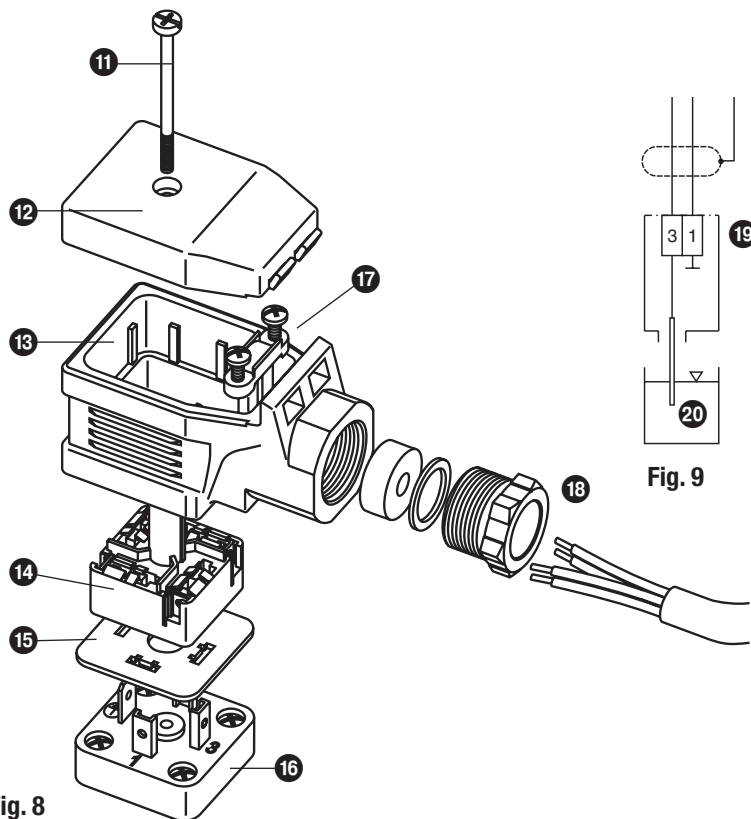

Fig. 8
1. Loosen screws ⑪. **Fig. 8**
2. Remove upper part ⑬ of the terminal box from the level electrode but leave insulating plate ⑮ on contact plate ⑯.
3. Remove cover ⑫.
4. Press connecting plate ⑭ out of the upper part of the terminal box ⑬.
1. Loosen screws ⑪. Fig. 8
2. Detach upper part of the terminal box ⑬ from the conductivity electrode.
1. Loosen screw ⑪. Fig. 8